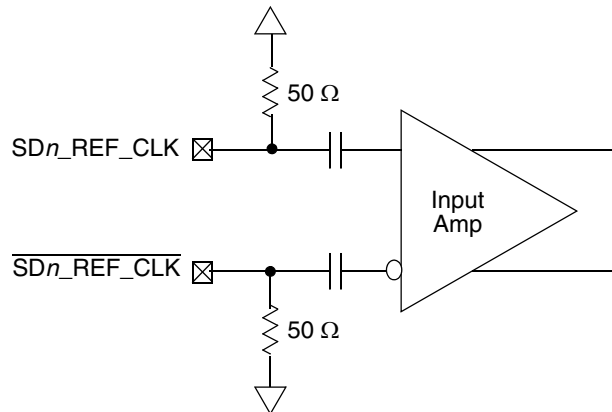

Figure 39. Receiver of SerDes Reference Clocks
Figure 39 shows a receiver reference diagram of the SerDes reference clocks.
- The $\text{SD}n_{\text{REF_CLK}}$ and $\overline{\text{SD}n_{\text{REF_CLK}}}$ are internally AC-coupled differential inputs as shown in Figure 39. Each differential clock input ($\text{SD}n_{\text{REF_CLK}}$ or $\overline{\text{SD}n_{\text{REF_CLK}}}$) has a 50- Ω termination to SGND followed by on-chip AC-coupling.